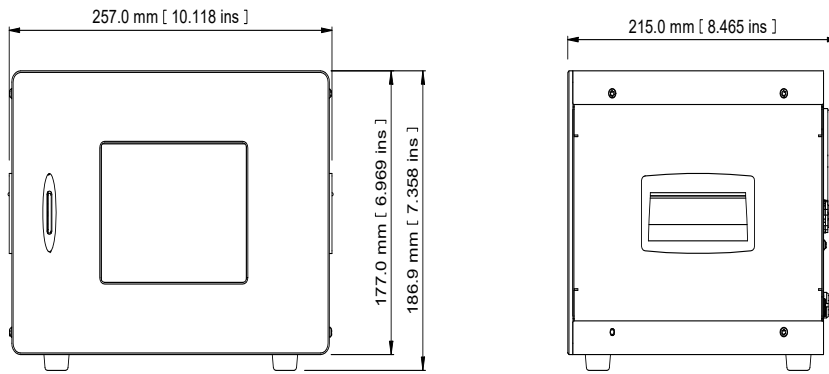

Figure 28 S8000 Remote Dimensions
2. Windows will recognize the instrument and automatically install the relevant drivers. If the driver installation has been successful then the Windows Device Manager Screen will list the following driver (see *Figure 28*):